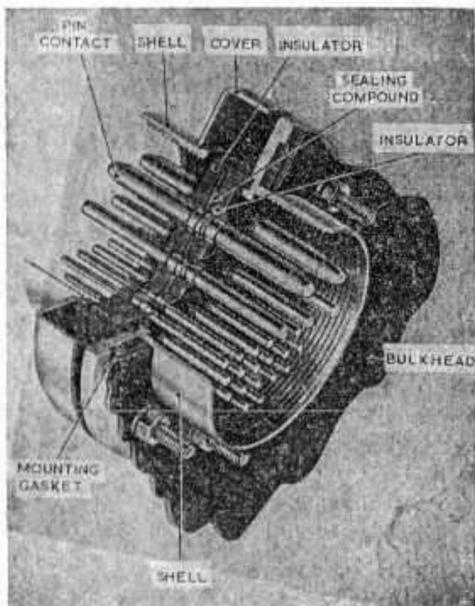

Fig. 11. Pressurised bulkhead unit
25. This style of unit (fig. 11 and 12) was manufactured in aluminium and differs from the normal type bulkhead unit in that it has a round flange integral with the shell. The shell is strengthened and contains two identical insulator discs of phenolic material bonded together by sealing compound with the double-ended pins moulded in position. A sealing gasket is fitted between the insulator and the shell. Completing the sealing requirement is a mounting gasket fitting in a recess of the front face of the flange and a unit cover fitting against the rear face of the flange. Fixing bolts and nuts (four for sizes A and Z; eight for sizes B, C, D and E) hold the unit together and secure the unit to a bulkhead. The unit is proof against a pressure of 15 lb/in2 but is not suitable for use in temperatures exceeding 85 degrees C. (para. 2(3)).